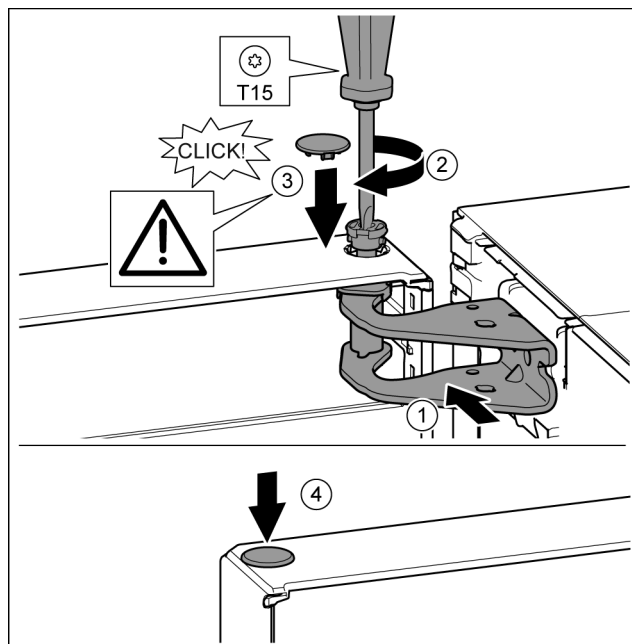

Fig. 40
- Align the top of the door with opening in the bearing bracket. Fig. 40 (1)
- Insert the bolt and tighten with a T15 screwdriver. Fig. 40 (2)
- Fit the protective cover to protect the door: Insert the protective cover and check that it is attached to the door. If not, insert the bolt fully. Fig. 40 (3)
- Insert the plugs. Fig. 40 (4)